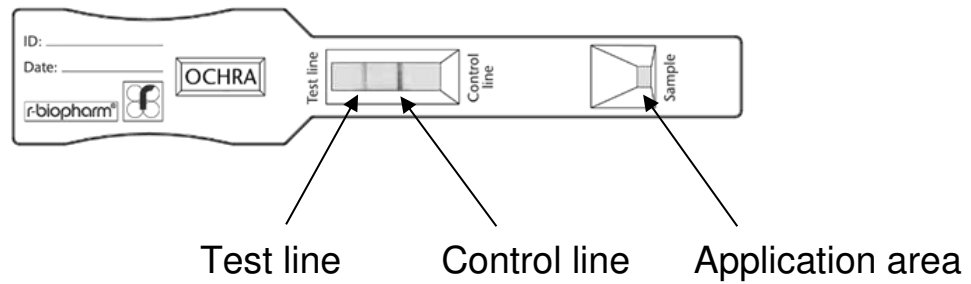

Figure 1: RIDA®QUICK Ochratoxin ECO test strip.
- Apply 100 µL of the clear supernatant (= dilution I) on the application area of the test strip (see fig. 1).
- Apply 100 µL of the dilution II on the application area of the test strip (see fig. 1).
- Apply 100 µL of the clear supernatant (see chapter 8. Sample preparation) on the application area of the test strip (see Fig. 1).
The left line in the reaction area is the test band (test line, see fig. 1). Its appearance and intensity depends on the ochratoxin A concentration of the sample. The sample is contaminated with ochratoxin A, if the control band (control line) is visible and the test band (test line) is also visible.